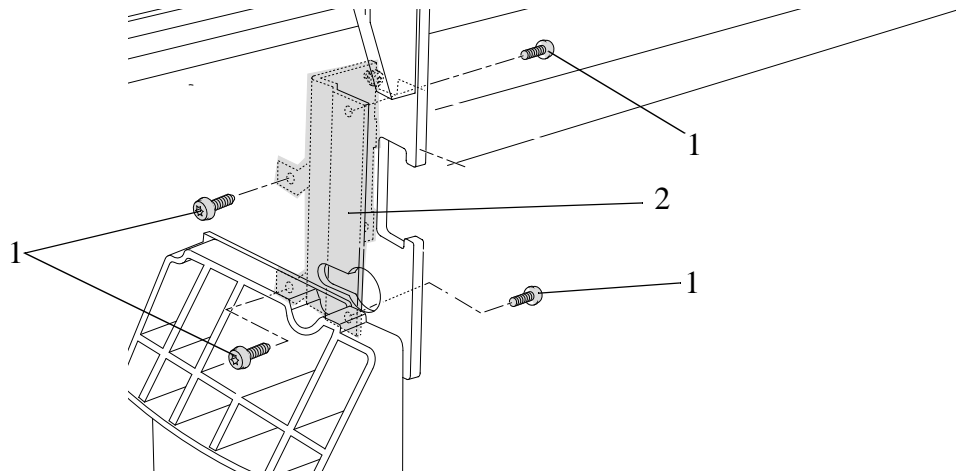

Figure 73: Left Electronic Module Mount
4. Remove the four T-15 screws (item 1) securing the left hand electronic module mount (item 2) to the left hand side chassis (refer to Figure 73).